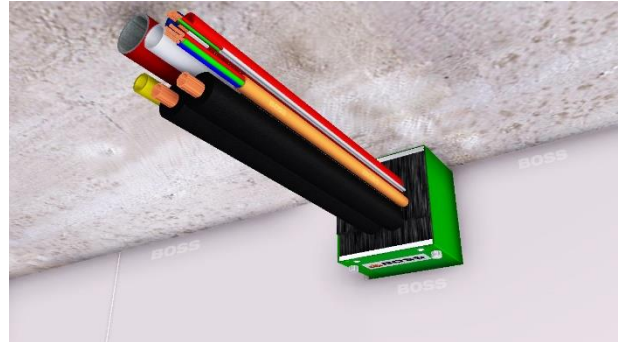

Figure 6
7. Complete the wall lining installation. (Figure 6)